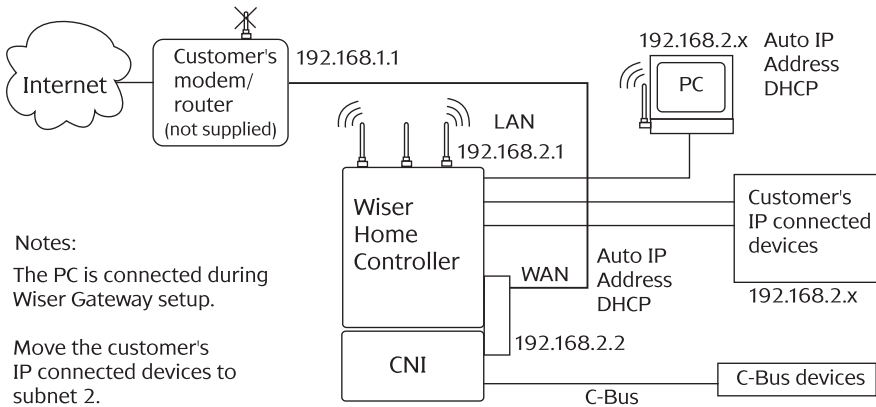

Figure 3. Option A, Wiser Home Controller as the connection point for the customer's LAN
- Option A. Connect the Wiser Home Controller's WAN port to the output of the customer's modem/router as shown in Figure 3. In this configuration, all network traffic passes through the Wiser Home Controller's wired and wireless LANs.